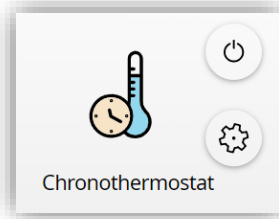

Figure 119. Chronothermostat box
- **Enablement** [0 = Disable; 1 = Enable / 0 = Enable; 1 = Disable]: selects the polarity of the control object "[Ci] Chronothermostat: Enable", which will enable or disable the chronothermostat analogously as from the on-screen switch button of the box (see Figure 119). The box configured as a chronothermostat control looks as follows: